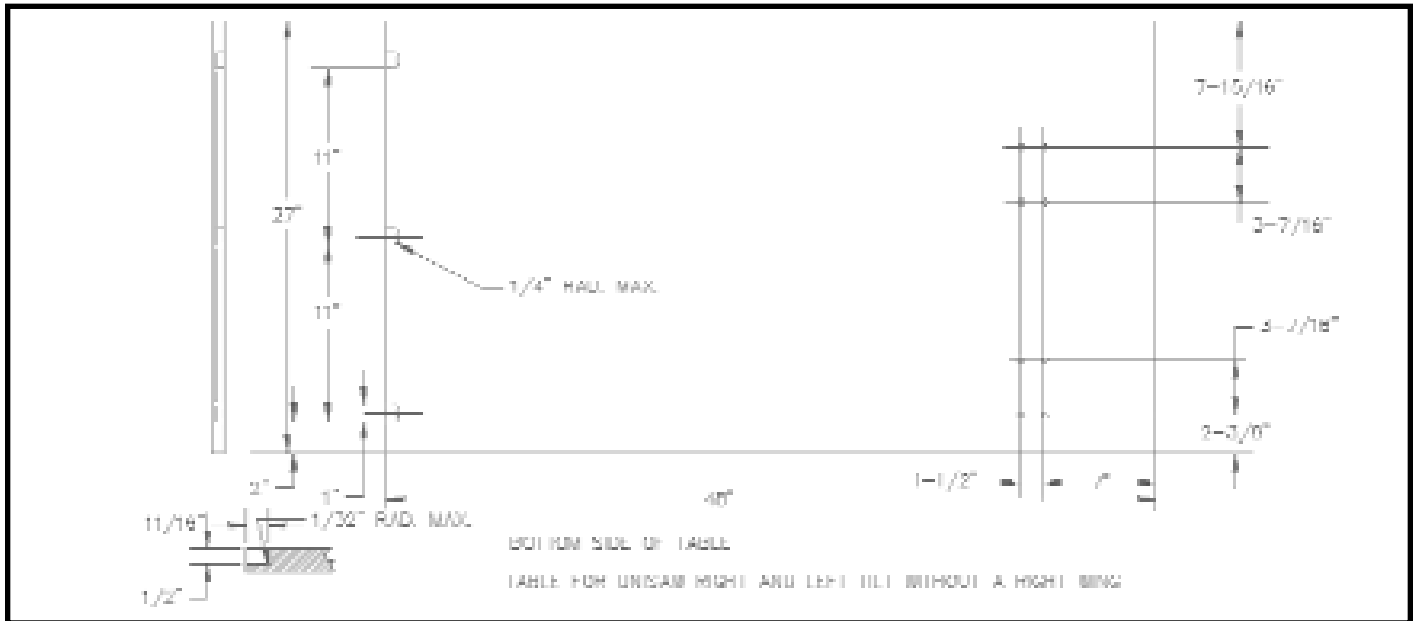
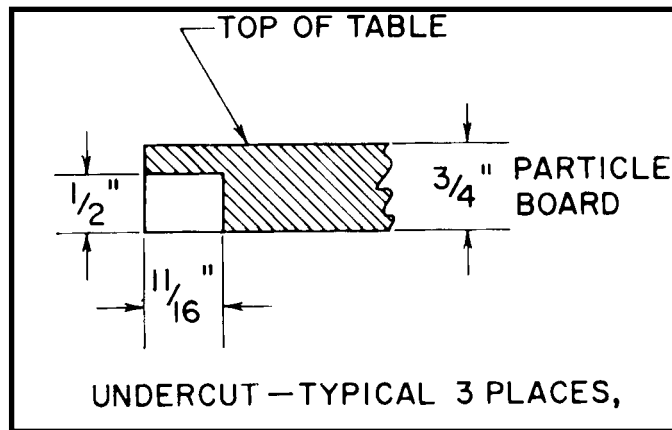
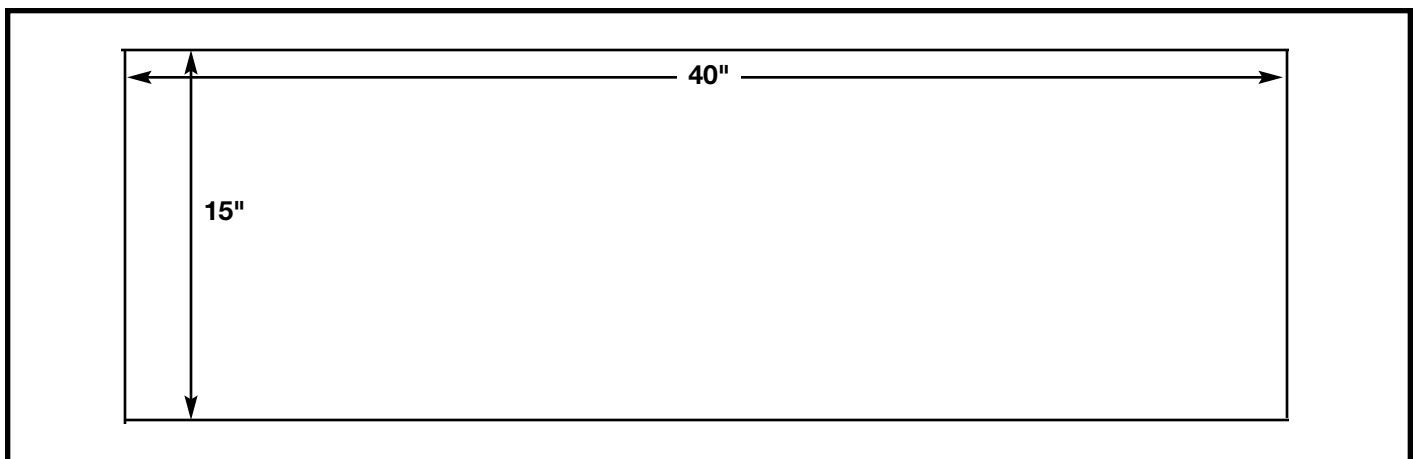

Fig. 2
Fig. 3
Fig. 4
1. A 48" long by 27" wide table is constructed using 3/4" material by following the dimensions shown in Fig. 2. A 40" long by 15" wide lower shelf is constructed using 3/4" material by following the dimensions shown in Fig. 4.
2. Three undercuts must also be made on the bottom left side of the table. The location of these undercuts is shown in Fig. 2, and the size of the undercuts is shown in detail in Fig. 3.